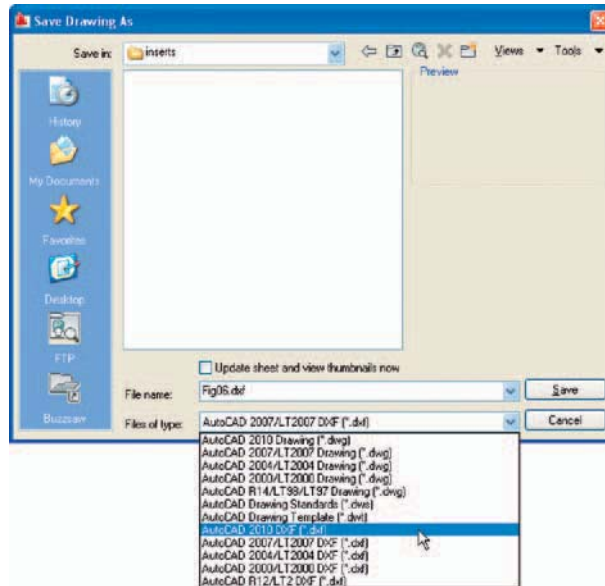

Fig. 10.7 The Save Drawing As dialog set to save drawings in DXF format
Example – DXF file (Fig. 10.7)
3. *Enter a suitable file name.* In this example this is **Fig06.dxf**. The extension **.dxf** is automatically included when the **Save** button of the dialog is *clicked* (Fig. 10.7).